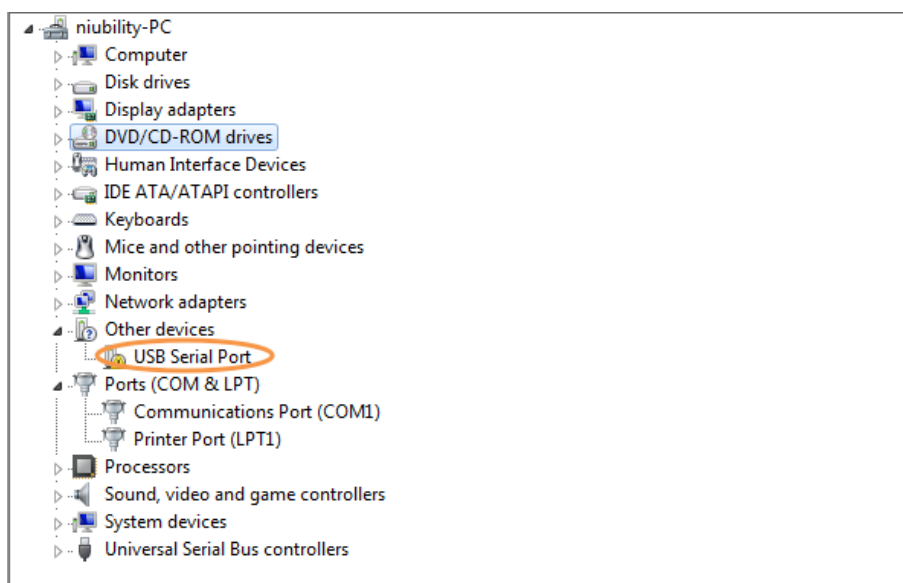

Figure 6-4 Unrecognized USB Serial Port on PC
- Power on your C5G board ,if you find an unrecognized USB Serial Port in Device Manager as shown in **Figure 6-4** .you should install the UART to USB driver before you run the demonstration.